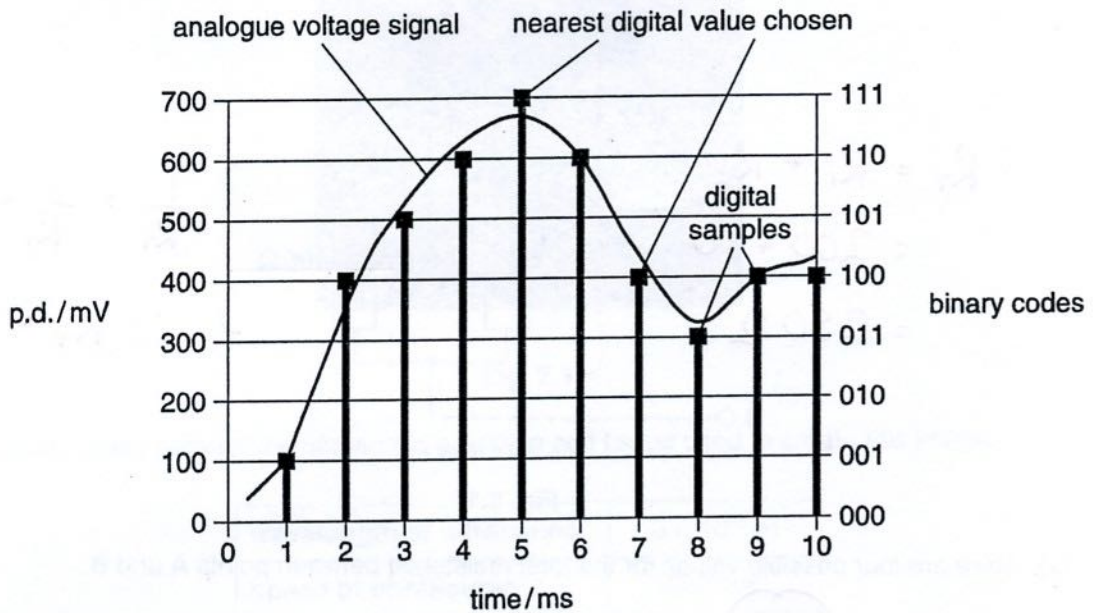

Fig. 5.1
5 Fig. 5.1 shows an analogue voltage signal varying in time.
- (a) Use information from Fig. 5.1 to calculate the number of bits per second used for the binary coding.
- (b) Fig. 5.1 shows that the digital samples can differ from the original analogue signal.